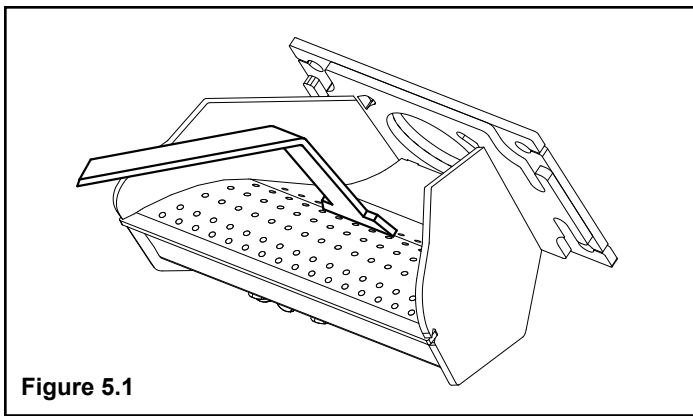

Figure 5.1
- Scrape the top holed surface and sides of the burn pot down to auger tube Figure 5.1. It is not necessary to completely remove all material from the burn pot. The excess will be pushed out during the next use.